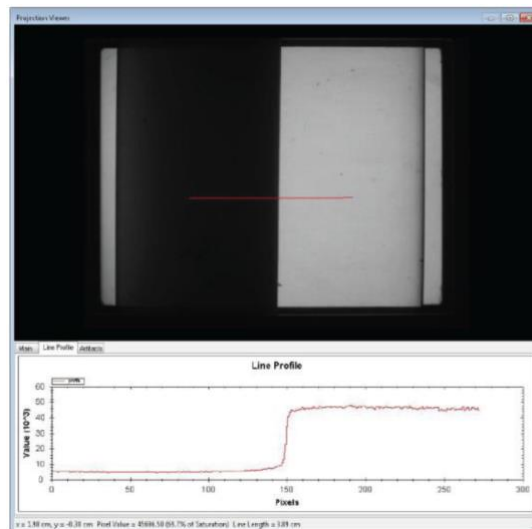

Figure 5: Line Profile through Step Edge Phantom single projection.
9. Select ‘Projection Viewer’ from the menu. Select the **Data** radio button. Select the **Full Image** checkbox. Scroll through the 320 projections and find the projection image showing the sharpest edge (perpendicular to the image). Use the **Line Profile** tool to draw a line which perpendicularly intersects the edge (Figure 5) and **Export Data as CSV file** (ERF 2D Profile).